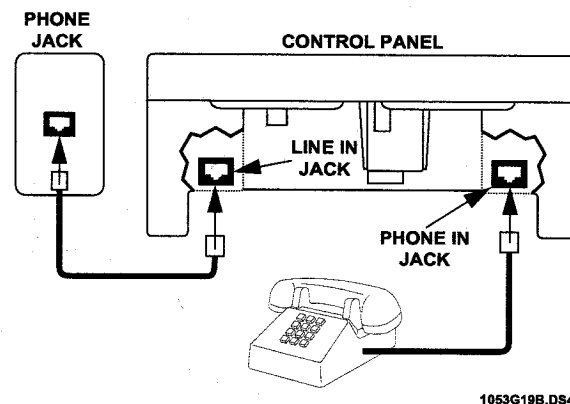

Figure 1. Connecting the Panel to the Phone Line
Connect a phone cord (not included) between the nearest phone jack and the LINE IN JACK on the panel as shown in Figure 1.
**Note:** If desired, a phone can be connected to the PHONE IN JACK, as shown in Figure 1. However, any phone connected to this jack will not work when the panel is reporting to the central station.